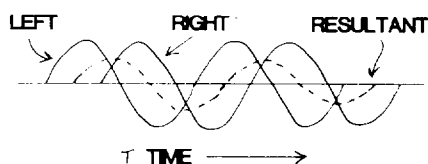

Figure 4
3. The strings will eventually settle down to some out-of-phase relationship that is not in perfect opposition. As a result, two strings will not be vibrating at exactly 180 degrees out of phase, or three strings at 120 degrees out of phase, and the resulting sound will be a little louder during the aftersound than it would otherwise (Fig. 4). Weinreich shows a good graphic picture of this effect.⁽⁴⁾